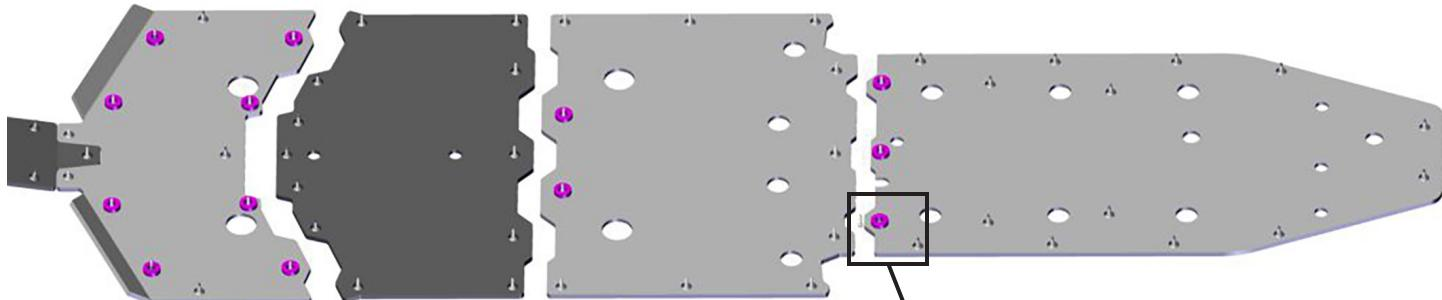
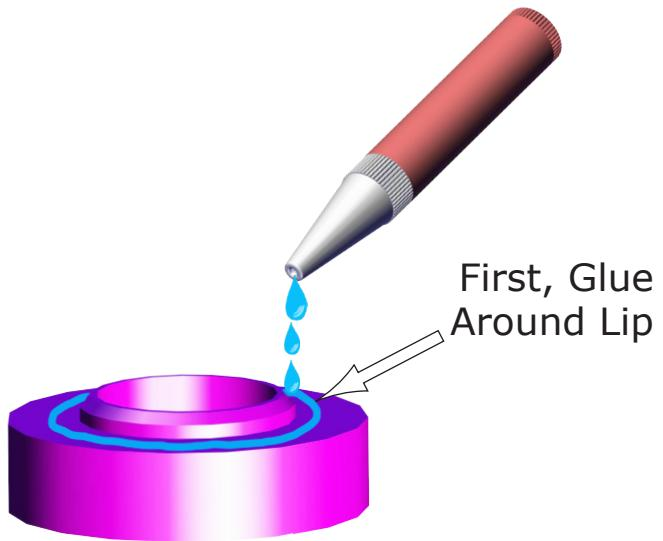

Fig.2a
Fig.3a
2. Before installing any of the skid plates onto your machine, you will need to **Install the Spacers Onto the Plates** prior to installing them. This will greatly help your installation with less frustration. Below you will see where these **Spacers** go on the plates that take them. In your kit we have also provided some **Instant Bond Adhesive** for you to **Glue the Spacers onto the Plates**. By gluing them in place, you no longer have to try to hold them up behind the panel while trying to thread the screws in from the opposite side. Each Spacer has a **Extended Lip** that fits into the holes of the plate, centering it to the hole. See **Fig.2a-b**. Before placing, you will need to glue the Spacer first.
3. Before you place the Spacers in the hole locations, locate the **Instant Bond Adhesive** in your kit and **Glue Around the Lip** of the Spacer as shown in **Fig.3a**. Then **Install** the **Spacer** into one of the hole locations shown in **Fig.2a**. Do this with each Spacer and insert only into the holes shown where the colored spacers are at in **Fig.2a**.